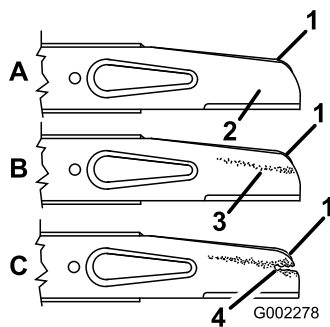

Figure 30
2. Remove the blade nuts, the accelerator, and the blade (Figure 30).